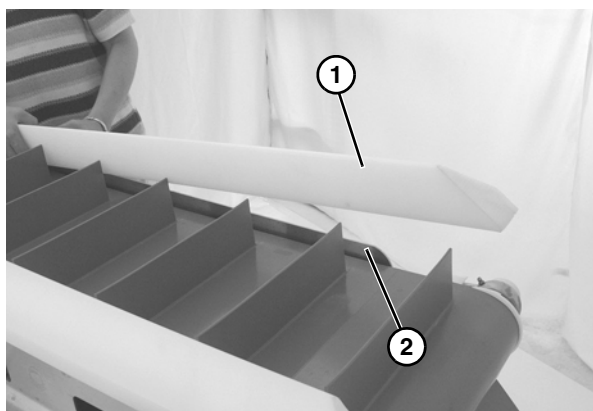

Figure 31
1. Position the guide (**Figure 31, item 1**) so that the flat surface is facing the belt and then slide the guide onto the frame rail (**Figure 31, item 2**).